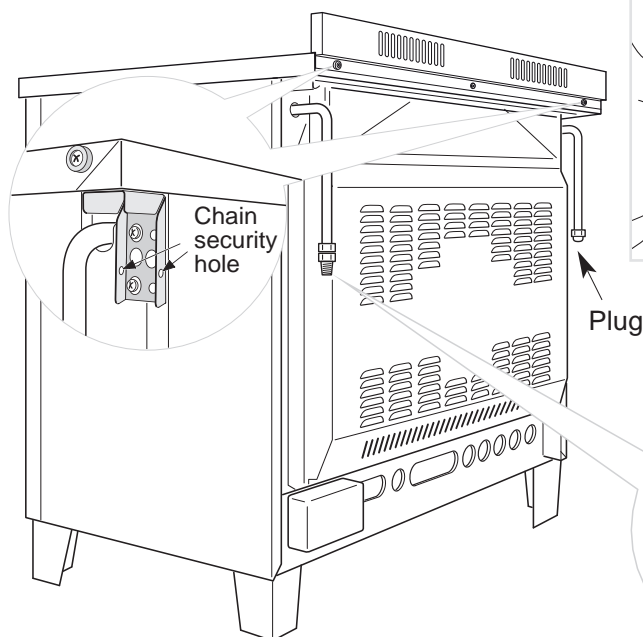

Figure 12
- The connection must be made at the rear of appliance (left or right); the pipe does not cross the cooker (fig. 12).